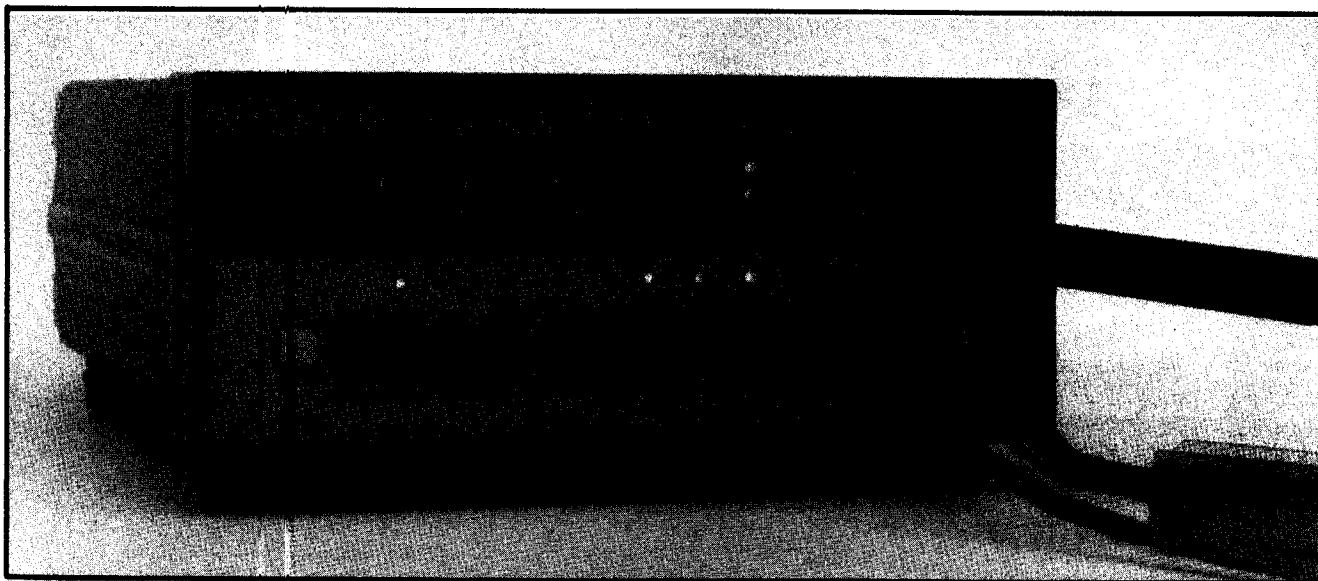

Figure 4-1. SELF-TEST Verification Setup
- c. Connect the START, STOP, CLOCK, and GND Timing Pod inputs to corresponding POD test connectors on the front panel. See Figure 4-1.